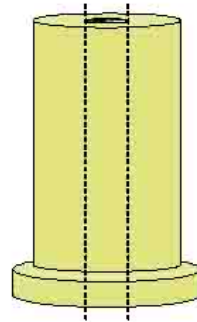

Figure 13. A bushing is the ideal choice because of the area surface contact with the shaft.
- 1) Bushings should be made of solid metal that is conductive and impregnated with oil for lubrication. The shaft fits inside the bushing and makes continuous contact (Figure 13). Therefore if the bushing is properly grounded, a bushing would be the ideal choice from an EMC point of view.